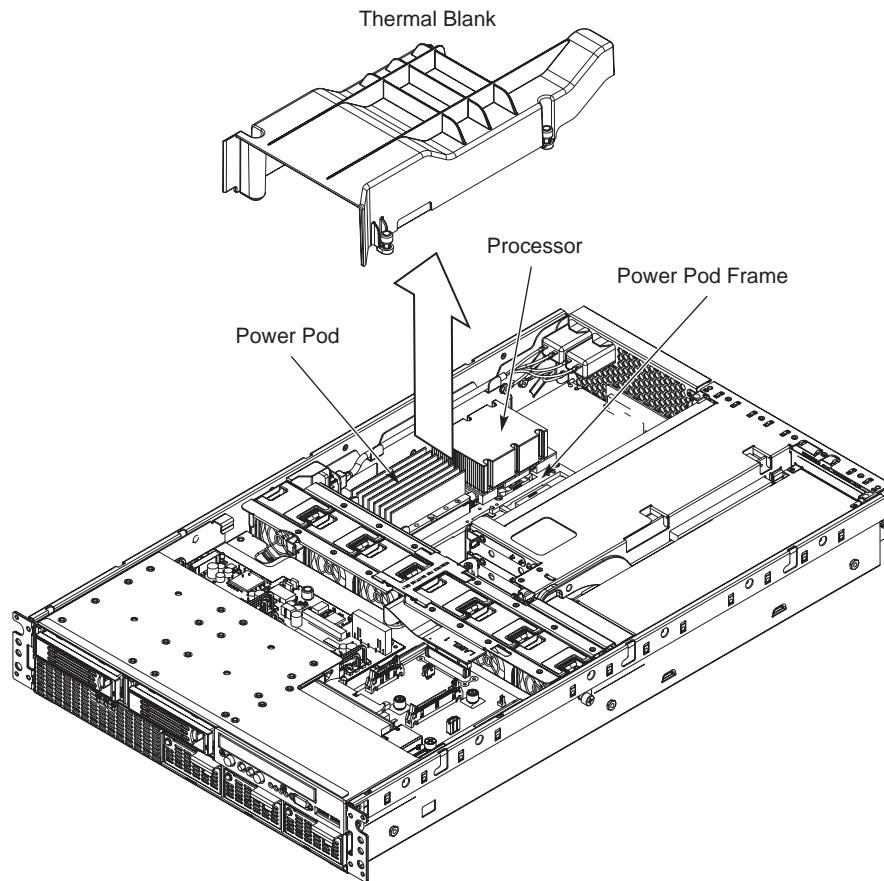

Figure 60. Removing the Thermal Blank
5. Squeeze the sides of the thermal blank together to release the side tabs from the power pod frame and lift the thermal blank up to remove. See Figure 60.